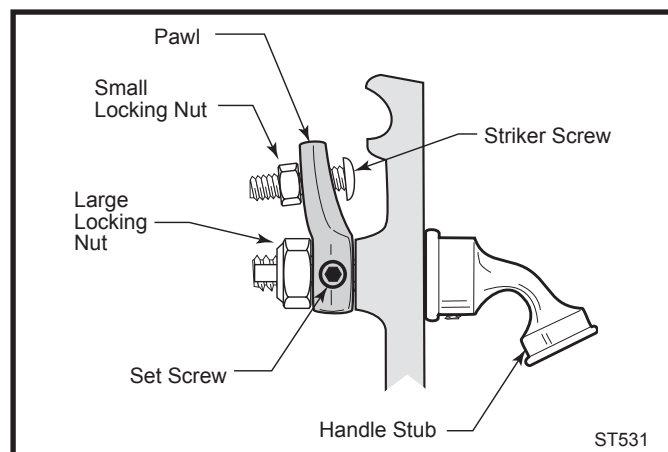

Fig. 12 Turn the door latch striker screw in or out to tighten or loosen the door latch.
1. Loosen the small lock nut with a 7/16" wrench. (Fig. 12)